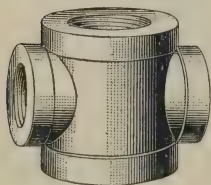

FIG. 23
**34.** **Crosses** are fittings used where two branches opposite each other are taken from a main run at an angle of  $90^\circ$  with it, as shown in Fig. 23. Although they are used extensively, their use is objectionable, as the flow from the main in two directions taken from the same point causes the current to flow unevenly, unless the branches are very well equalized. In